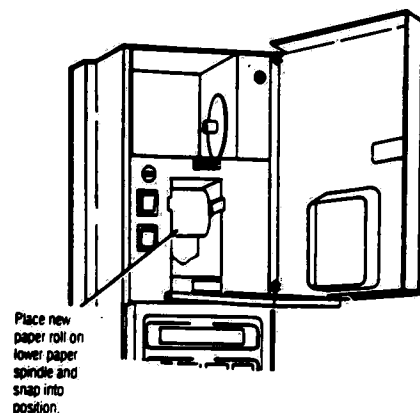

FIGURE 4-7 – New Paper Roll In Place
7. Place lower spindle (with new paper roll) back into position by pressing from the front until it snaps into place (Figure 4-7).